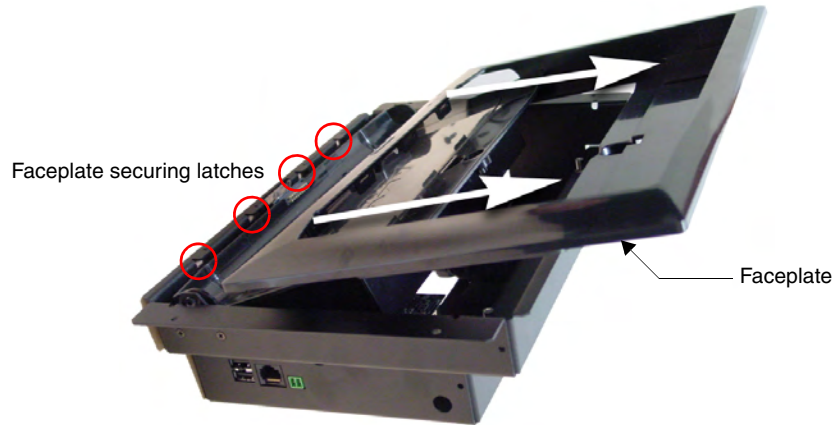

FIG. 21 Faceplate removal from MVP-WDS
13. In one single motion, use your thumbs to push the bottom rim towards the cradle, and then pull it upwards to slide the four faceplate connectors up and away from their respective securing latches along the bottom of the MVP-WDS (FIG. 21).
- Be sure to snap the Faceplate Connectors into their respective Latches (located along the bottom rim of the faceplate - see FIG. 21 on page 21).